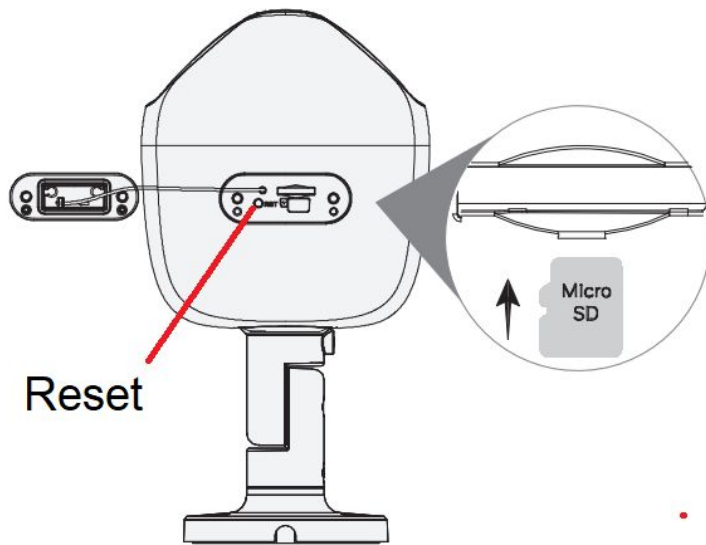

Figure 2-8
**Step 2** Slightly press the RESET button for 15-30 seconds to complete the reset function. See Figure 2-8. The camera will reboot when the reset process is complete.
**Step 3 (If installing SD Card)** Adjust the Micro SD Card to a proper direction shown in Figure 2-8.